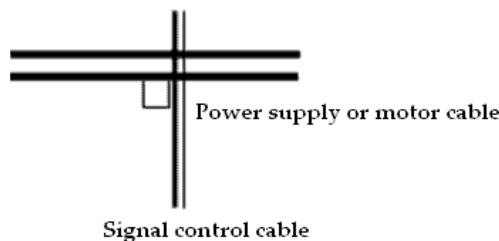

Fig. 2-12 Wiring requirement of system
- (1) The cable connected inverter and motor (cables from U, V, W points) should not parallel with power supply cable (R, S, T or L, N terminal input wire). The distance should be more than 30cm.
- (2) Inverter’s output cables from U, V, W terminals is recommend to put in metal tube or slot.
- (3) Control signal cables should be shield and the shield layer should be connected with inverter’s PE terminal, then ground the point near the inverter.
- (4) The grounding cable of inverter’s PE terminal should be connected to ground directly.It can’t connect to other devices’ grounding cables.
- (5) Don’t put the signal cables in parallel with the power cables (R, S, T or L, N with U, V, W) or bundle these cables together, at least 20~60 cm distance should be kept (related with power current), If the signal cables and power cables needed to be intersected, they should be vertical to each other, as shown in Fig2-12